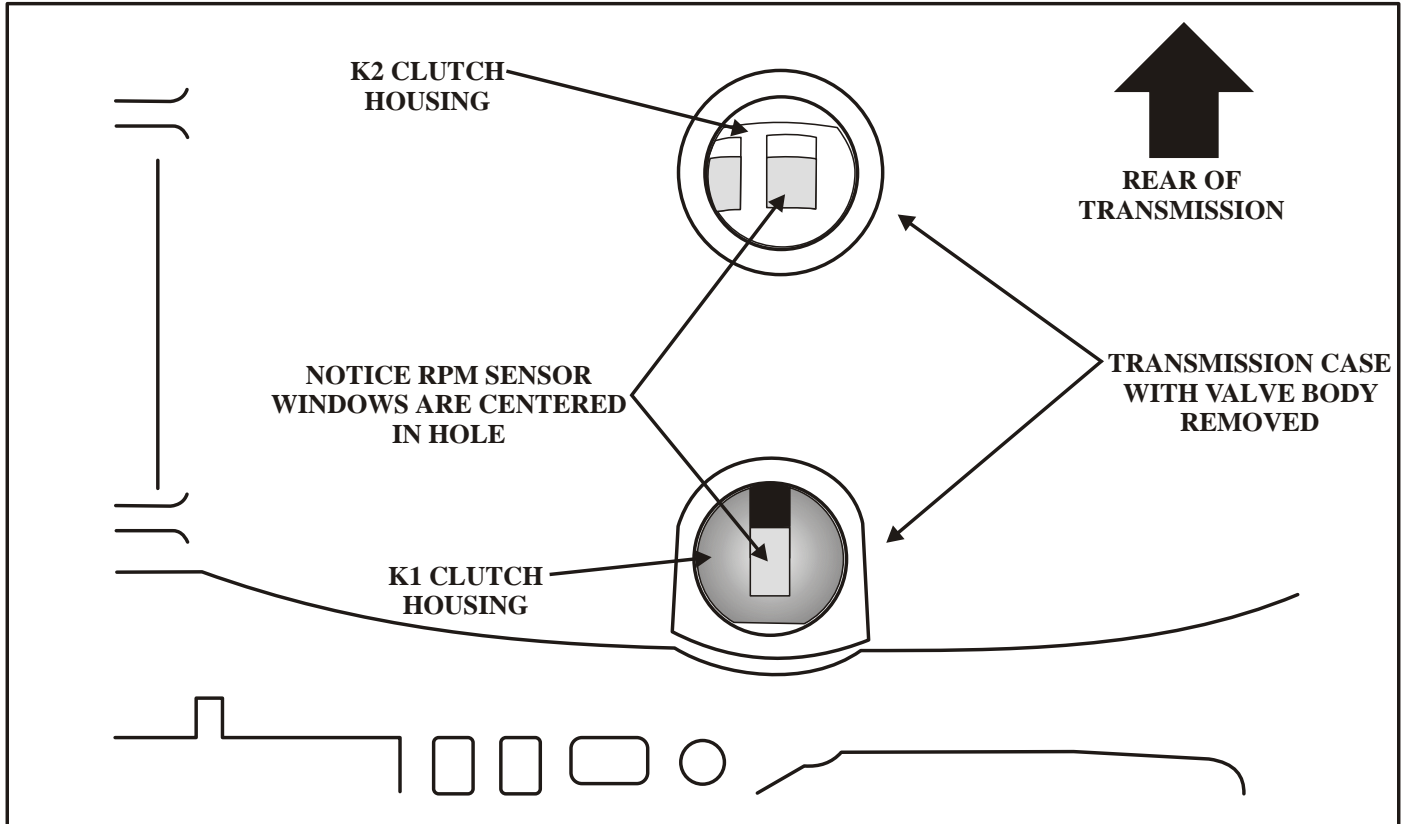
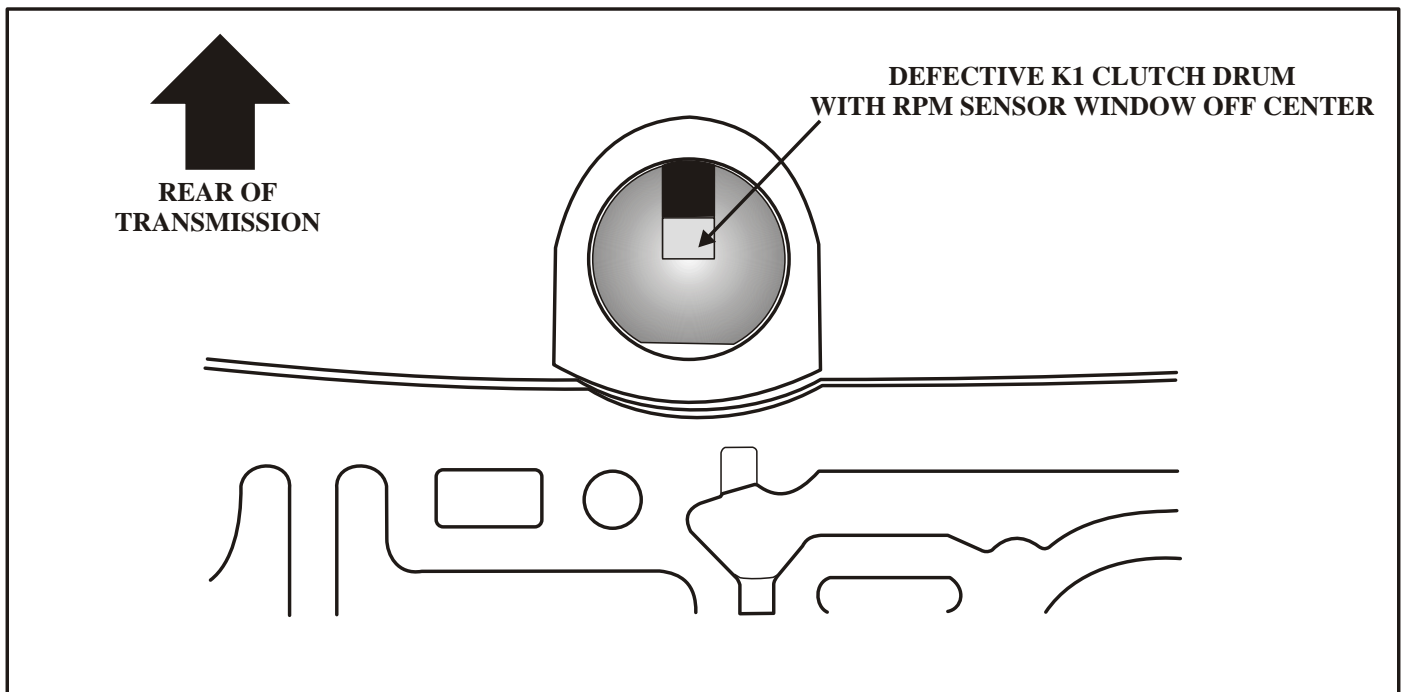
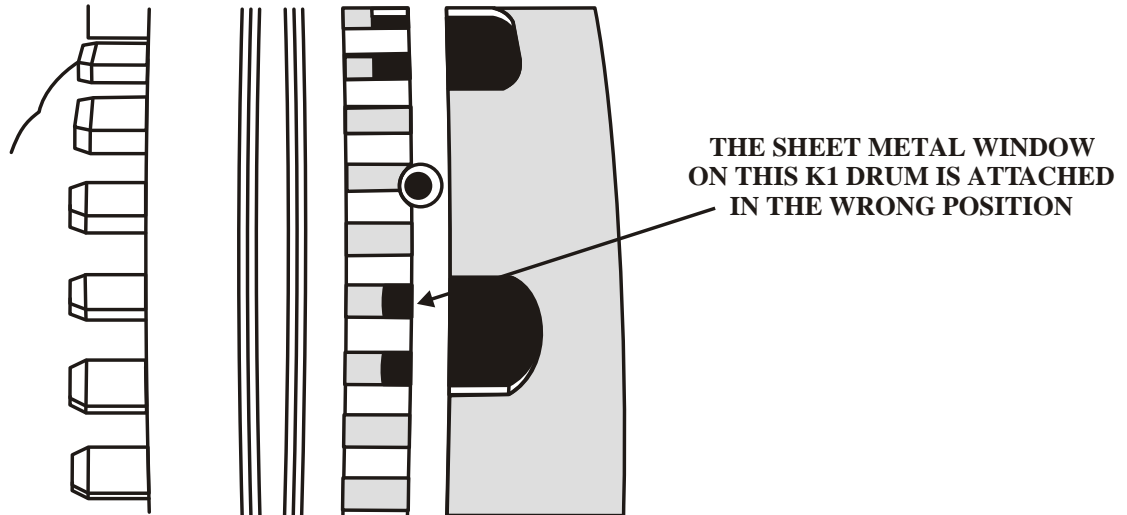
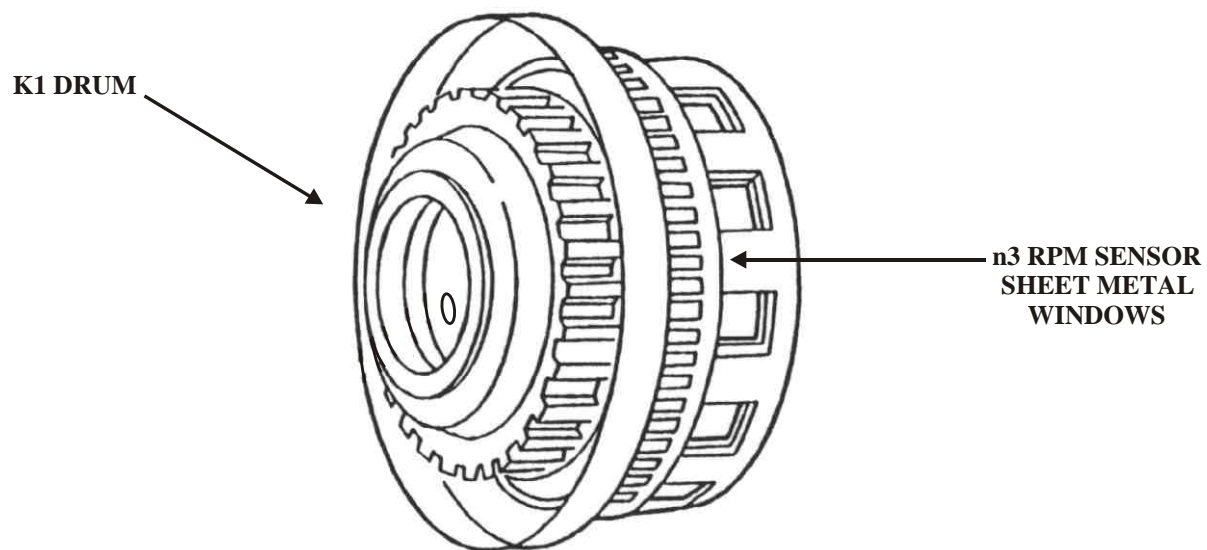

Figure 4
Figure 5
Figure 6
Figure 7
3. An erratic **n3 RPM Sensor** signal can be caused by a defective K1 clutch drum which has the sheet metal window attached to the K1 drum mis-positioned. When the K1 drum is not defective, the sheet metal window will be centered in the hole in the case which can be seen in Figure 4, once the valve body is removed. When the K1 drum is defective the sheet metal window will be off center of the hole in the case as seen in figure 5. The K1 drum will require replacement when the sheet metal window is off center as shown in figure 6. Figure 7 illustrates the K1 drum with the sheet metal window attached.
Figure 4 shows the upshift delay diagram for vehicles **without** "E/S" Mode Select Switch. These systems use one switch over valve and one vacuum hose connection on the upshift delay vacuum actuator for catalytic converter heating only.
Figure 5 shows the upshift delay diagram for vehicles **with** Three Way Catalyst Heating (TWC), these systems use two switch over valves and two vacuum hose connections on the upshift delay vacuum actuator, one for upshift delay to heat the catalytic converter quickly and one for "S" Mode delayed shifting.
Figure 6 shows the upshift delay diagram for vehicles **with** the Mode Selector Switch, these use one switch over valve and have only one vacuum hose connection on the upshift delay vacuum actuator for catalytic converter heating only.